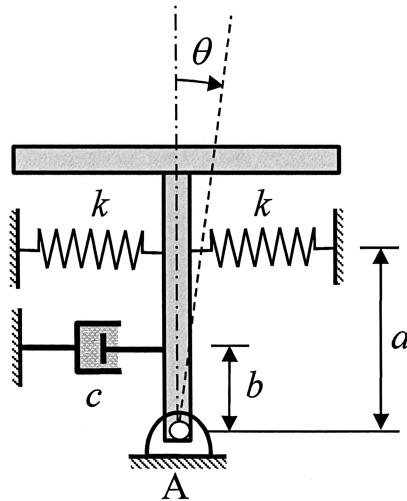

Figure 5
- (b) Figure 5 shows a T-shaped frame hinged at A and connected to two springs of equal stiffness  $k$  and a damper of damping coefficient  $c$  as illustrated. The T-shaped frame is made of two uniform rigid bars of equal length  $L$  and equal mass  $M$ . In the position shown, the springs are free (unstrained).
Derive the equation of motion for the system in terms of the coordinate  $\theta$  shown in Figure 5, and thereby determine the natural frequency of the system ( $\omega_n$ ) in terms of  $a$ ,  $k$ ,  $M$  and  $L$ . Show your derivations clearly by drawing appropriate free body diagrams.